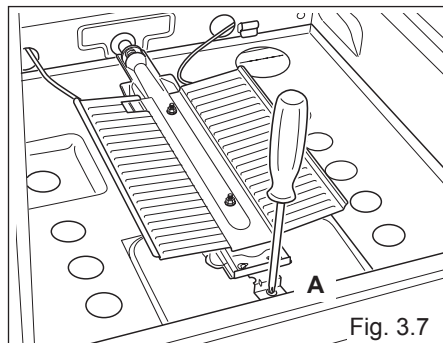

Fig. 3.7
- Unscrew and remove the burner securing screw “A” (fig. 3.7).